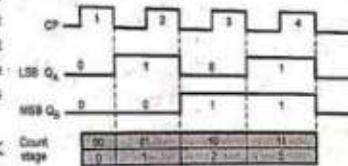

Fig. 5.9.3 (b) Timing diagram for the counter of Fig. 5.9.3 (a)
**Example 5.9.3** Extend the counter shown in Fig. 5.9.3 (a) for 3-stages, and draw its waveform.